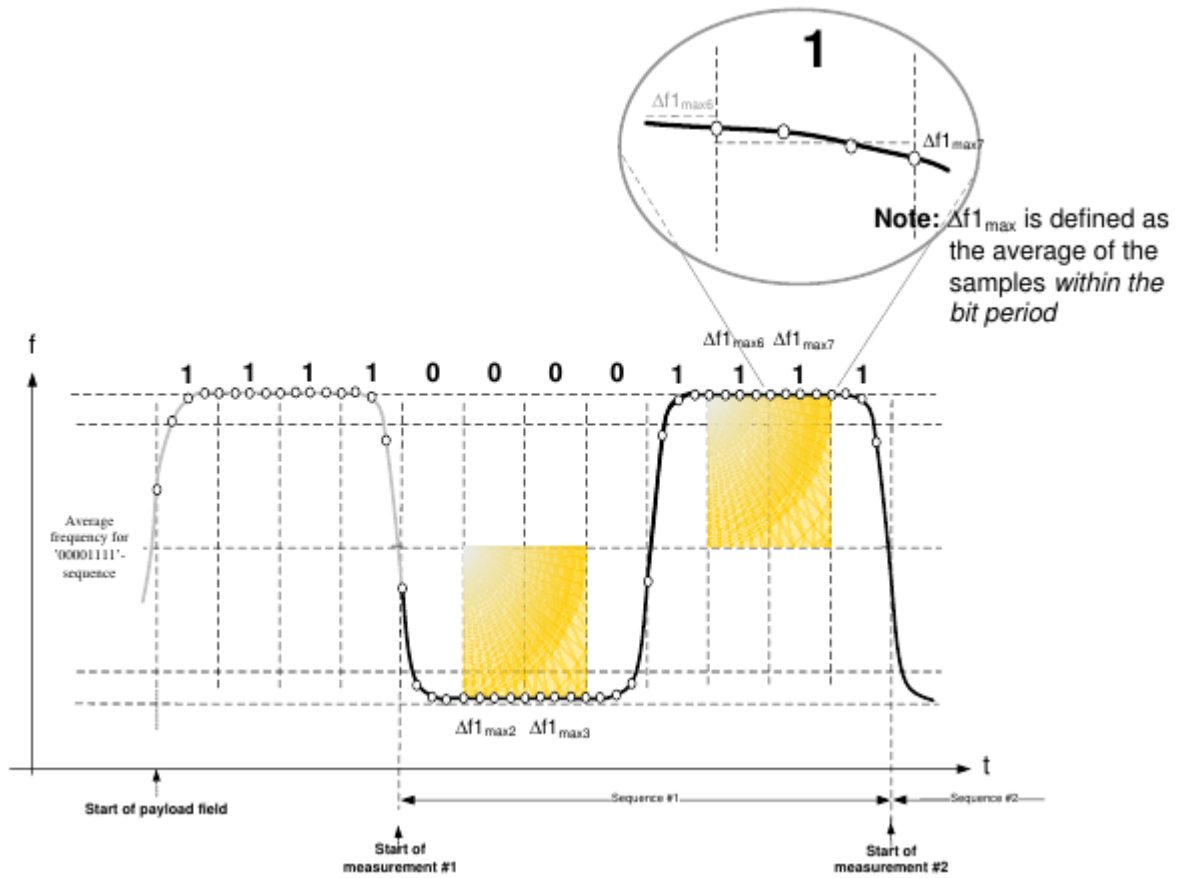

Figure 22-5 Frequency deviation measurement principle for 11110000-payload sequence
- E. The measurement shall start at the beginning of the fifth bit of the payload (See Figure 22-5 Frequency deviation measurement principle for 11110000-payload sequence for description). The last four bits in the payload shall be disregarded. The sequence center frequency;  $f_{1ccf}$  is calculated as the average frequency of all samples over each 00001111 bin sequence. For the second, third, sixth and seventh bits in each 00001111bin sequence, the absolute value of the frequency offset from  $f_{1ccf}$  is recorded as  $\Delta f_{1max}$ .  $\Delta f_{1max}$  is defined as the average deviation for each individual bit. The average frequency value of all  $\Delta f_{1max}$  frequencies in a packet is calculated and recorded as  $\Delta f_{1avg}$ .